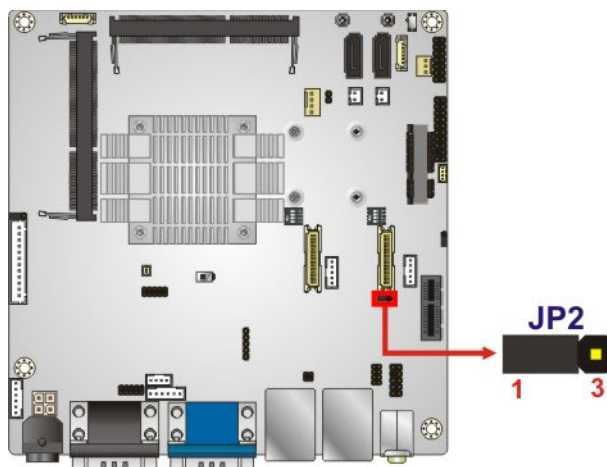

Figure 4-16: LVDS2 Voltage Selection Jumper Location
- Jumper Location:** See Figure 4-16